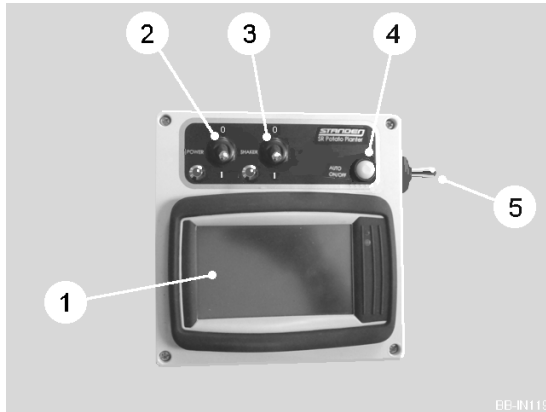
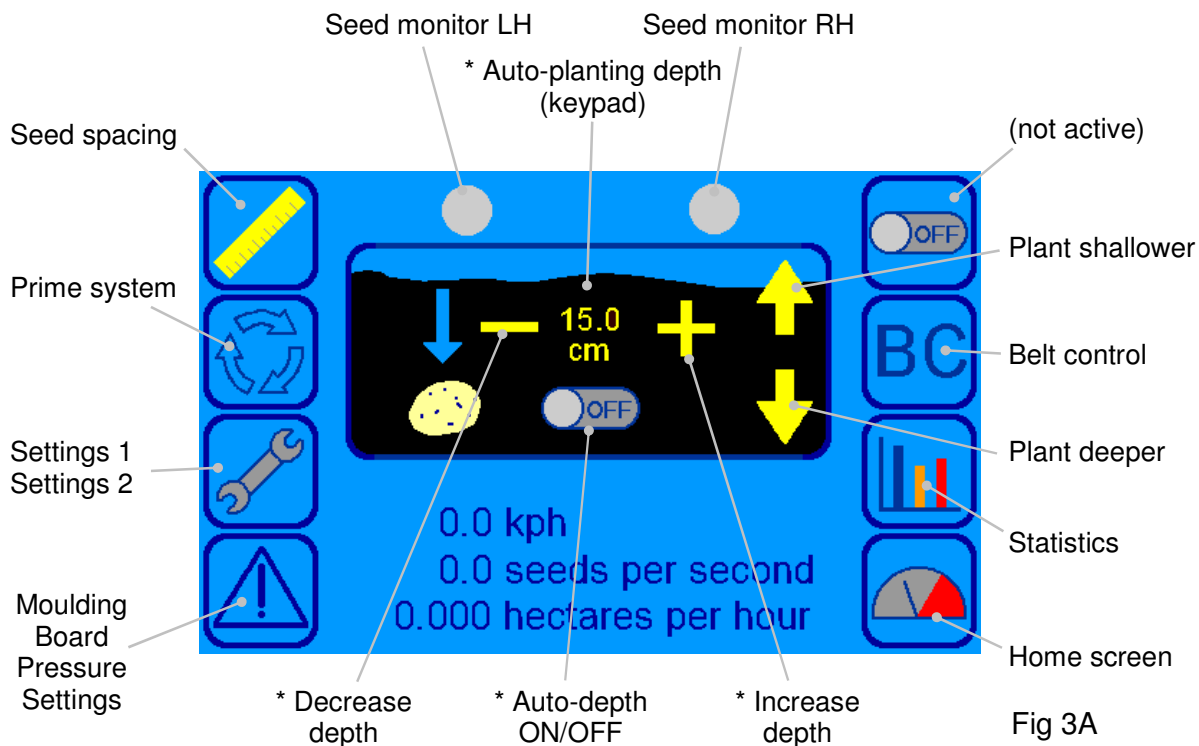

Fig 1A
Fig 3A
The SR SERIES console consists of the touch-screen (item 1, fig 1A), the control system ON/OFF switch (item 2, fig 1A), an optional tunnel shaker switch (item 3, fig 1A), the drives ON/OFF button (item 4, fig. 1A), and the buzzer ON/OFF switch (item 5, fig. 1A).
Turn the control system ON using the switch (item 2, fig 1A). When fully powered up the 'home' screen will display (see fig 3A).
On the 'home' screen (see fig 3A) press the UP and DOWN arrows to hydraulically change the seed planting depth. To plant shallower press the UP arrow. To plant deeper press the DOWN arrow.
Press  to return to the 'home' screen (see fig 3A). Using the + and – icons set the desired depth. Alternatively, press the digits to display a keypad and enter the depth. Press 'DONE' to confirm input. Press the 'auto-depth ON / OFF' icon to activate the system. The automatic depth control can be overridden momentarily by pressing the UP and DOWN arrows.
Press the icon  once. Using the yellow arrows, scroll until the 'seed warning delay' screen is displayed (see fig 10A). Increase / decrease the delay using the + and – icons. If required, the buzzer can be switched OFF using the switch (item 4, fig 1A).